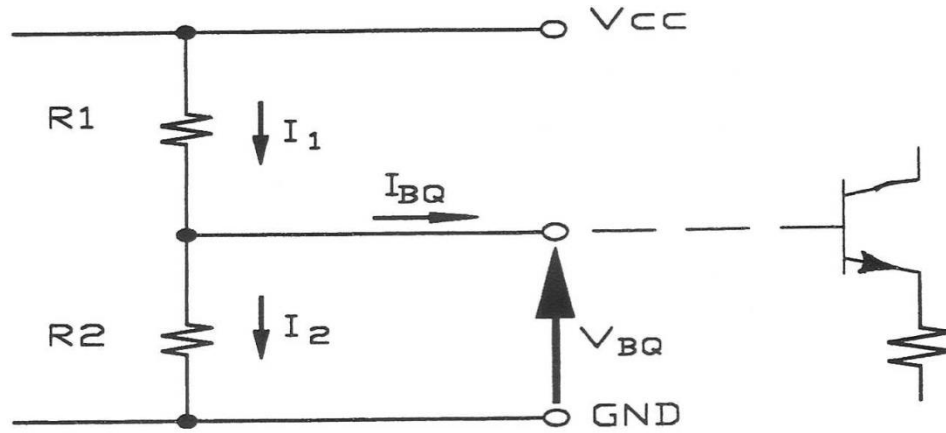

Figure 2.7 Base Bias Circuit.
- (i) The base bias circuit is analyzed. Figure 2.7 shows the base bias circuit removed from the rest of the amplifier.